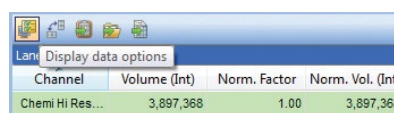

Fig. 10. Customize the data table.
- From the Analysis Table tools, click **Display data options** to customize the data table (Figure 10)